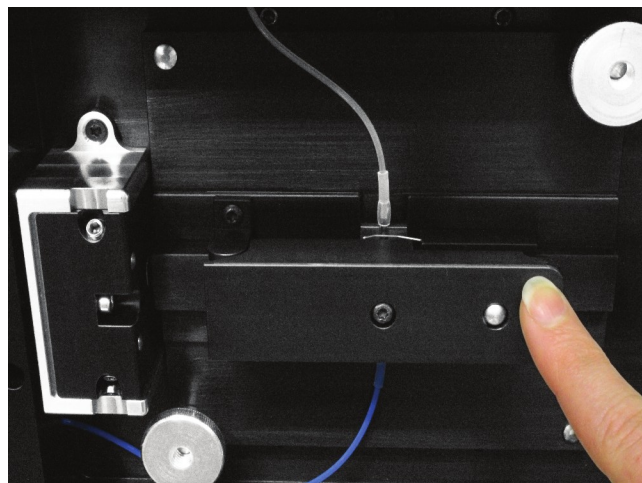

Figure 1. Ensure a flow cell is installed and the reflector arm is fully closed.
1. Ensure that a flow cell is properly installed on the instrument and that the reflector arm is fully closed (**Figure 1**). Vertical alignment at this point is not critical, it just needs to be close enough to see the upcoming bead pack.